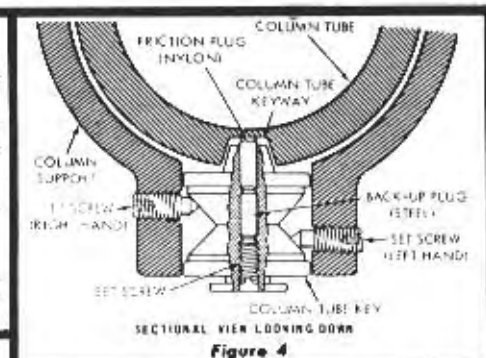
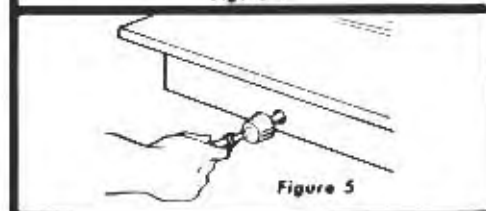

Figure 4
Figure 5
figure 4 is a sectional view through the column tube support (looking downward) at this location. By loosening the left-hand set screw and tightening the right-hand set screw the column tube key will be forced tighter into the column tube keyway. Conversely, loosening the right-hand set screw and tightening the left-hand set screw, the column key will be retracted out of the column tube keyway. The set screw in outer end of column tube key must be loosened while adjustment is being made and tightened with medium firmness after adjustment is completed. This screw applies pressure on the nylon friction plug and provides smoother elevation movement of column tube. This set screw should be tightened to provide maximum smoothness of operation. *Right and left positions are given with operator facing the saw — standing in front of saw table.*
b. Loosen left-hand set screw 1/4 turn. (See figure 4.)
c. Tighten right-hand set screw. (See figure 4.)
d. Tighten left-hand set screw. (See figure 4.)
e. Turn elevation crank to raise and lower radial arm. (See figure 5.) If too tight, loosen right-hand set screw (figure 4) slightly and check again for smooth operation. When correct, tighten left-hand set screw.
f. Tighten set screw in center of column tube key (figure 4) until smoothest operation is obtained.